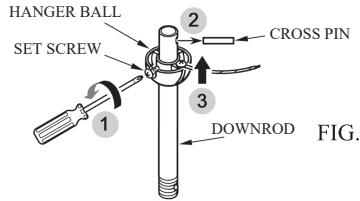

FIG.2
2. Remove hanger ball from downrod assembly by loosening set screw, removing the cross pin, and sliding hanger ball off downrod. (See Fig. 2)